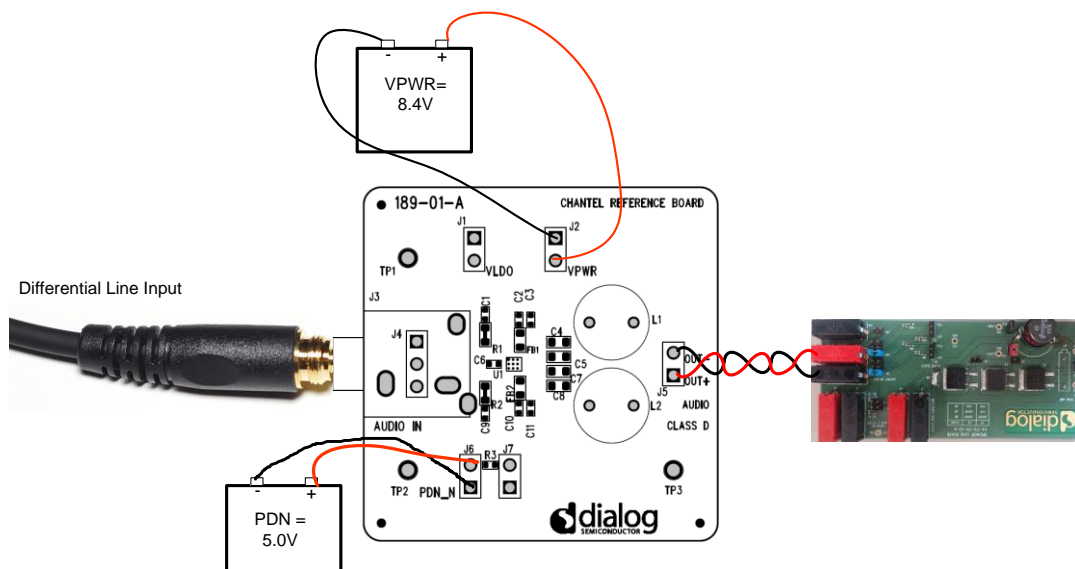

Figure 3. DA7202 EVB external connections
- Resistive Load of 4/8 Ω with 33 μ H Inductor to J5, (44-179-179-02 Speaker Load Board) (see Figure 3).